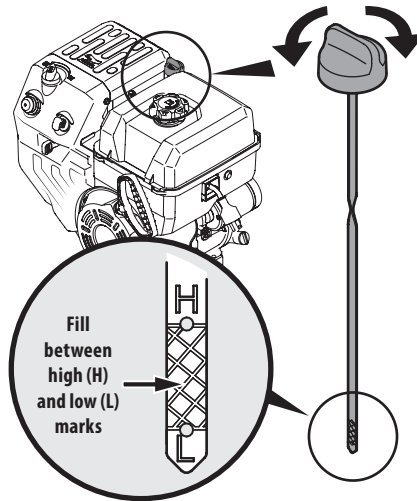
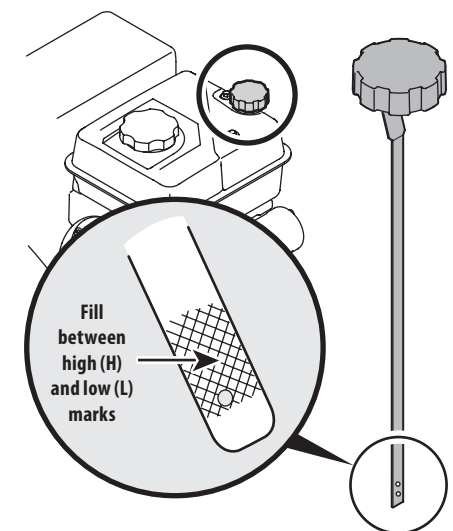

Figure 3-2
Figure 3-3
- Keep oil level between "H" and "L" marks on dipstick. See Figure 3-2.
1. Remove the oil filler cap/dipstick and wipe the dipstick clean. See Figure 3-2.
3. Remove the oil filler cap/dipstick. If the level is low, slowly add oil until oil level registers between high (H) and low (L), Figure 3-2.
- Keep oil level between "H" and "L" marks on dipstick. See Figure 3-3.
1. Remove the oil filler cap/dipstick and wipe the dipstick clean. See Figure 3-3.
3. Remove the oil filler cap/dipstick. If the level is low, slowly add oil until oil level registers between high (H) and low (L), Figure 3-3.
4. Loosen and remove the oil fill cap dipstick from the oil filler tube. Note the oil level, if oil reading on the dipstick is below the "L" mark, slowly add oil to reach the "H" level. See Figure 3-2 or Figure 3-3, whichever is applicable.